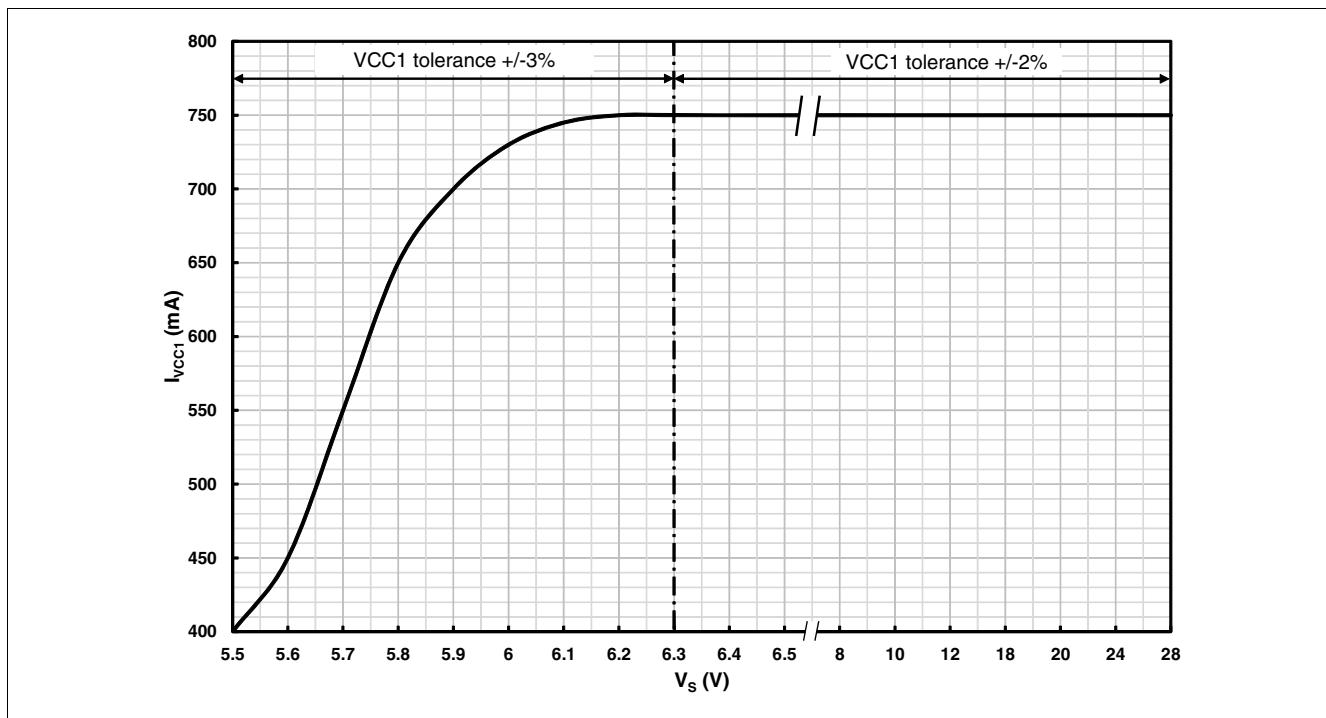

Figure 12 Maximum DCDC Buck current capability versus VS.
- 1) Typical maximum current capability is given in Figure 12. The external components are in accordance with the application information (refer to Chapter 15).
Note: The Figure 12 is based on characterization results over temperature with external components specified in Chapter 15.1.